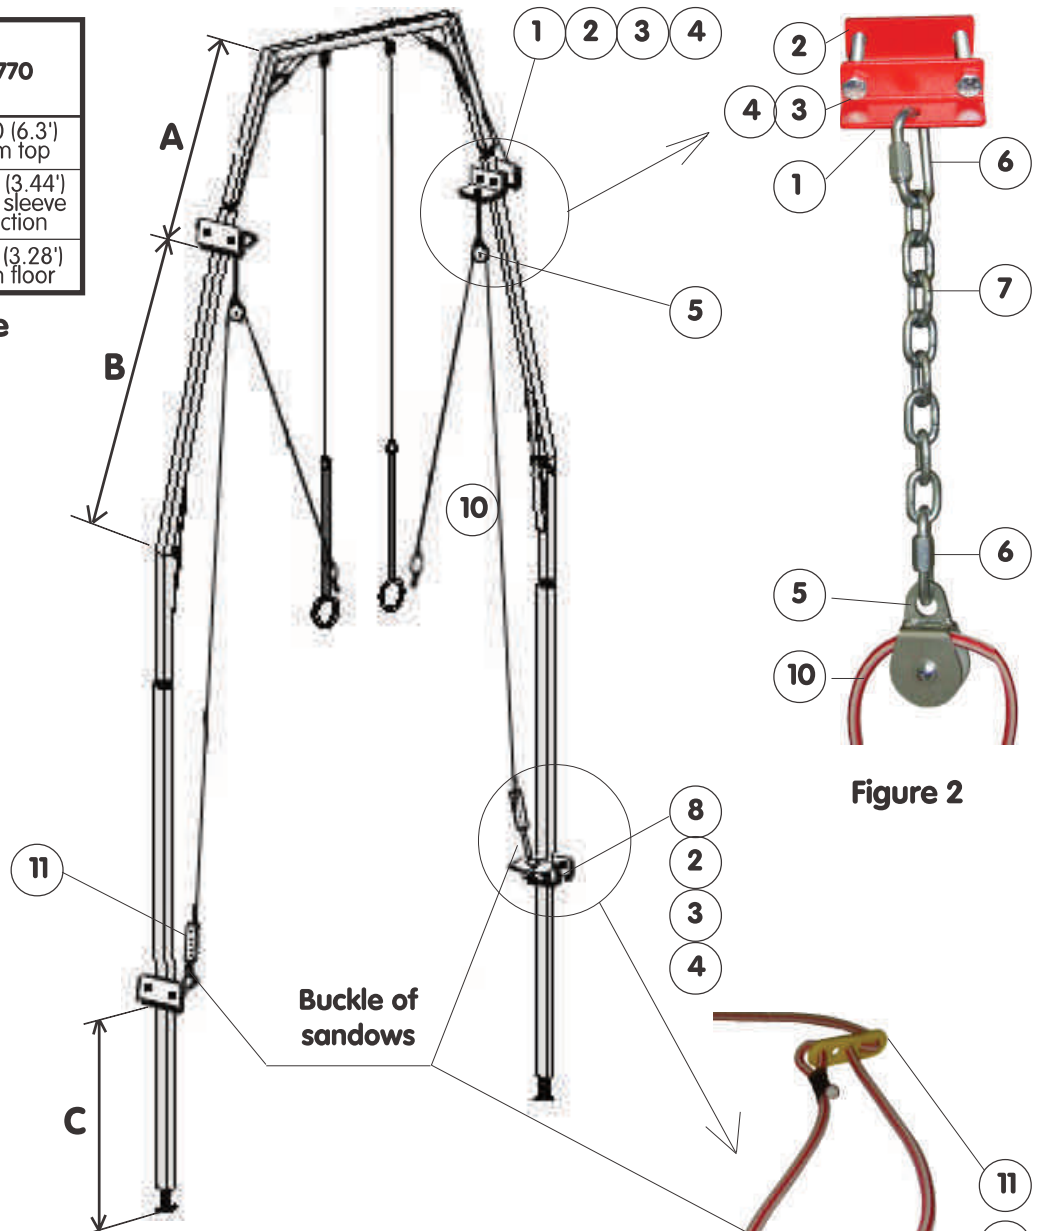

Figure 1
- 2 - Fit (but do not tighten) the top brackets (1) inside each side of the frame, using the tightening flats (2) and screws (3) and (4), as shown by Figures 1 & 2. Position the brackets (1) in accordance with distances A or B specified in the Table (measured along the tubes).
- 3 - Hook the pulleys (5) using the quick links (6) installed at the chain (7) end, to the top brackets (1).
- 4 - Then, symmetrically attach the top brackets (8) fitted with swivel pins (9) inside each side of the frame, using the tightening flats (2) and screws (3) and (4), as shown by Figures 1 & 3. Position the brackets (8) in accordance with distance C specified in the Table.
- 5 - Hook the quick links (6) (installed on the adjusting buckle of the sandows (10)) to the swivel pins (9).
- 6 - Before raising the frame, check that the sandows (10) and pulleys (5) are neither mingled, nor coiled, then tighten all attachment elements and quick links (6) using a wrench.
- 7 - Hook the belt (13) using the snap hooks (12).